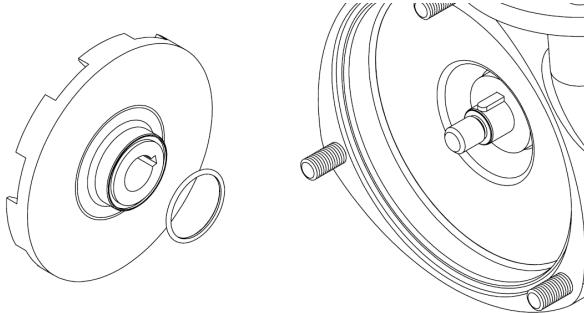

Figure 25
8. Install the impeller o-ring into the back of the impeller (SB models only) figure 25.